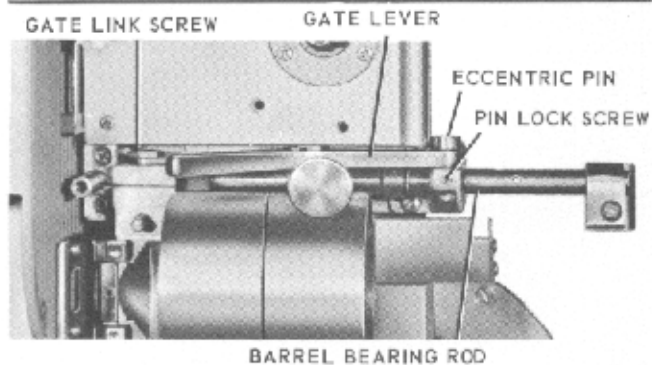

FIGURE 13
c. Loosen the GATE LINK SCREW, figure 13, with a thin 3/8-inch wrench.